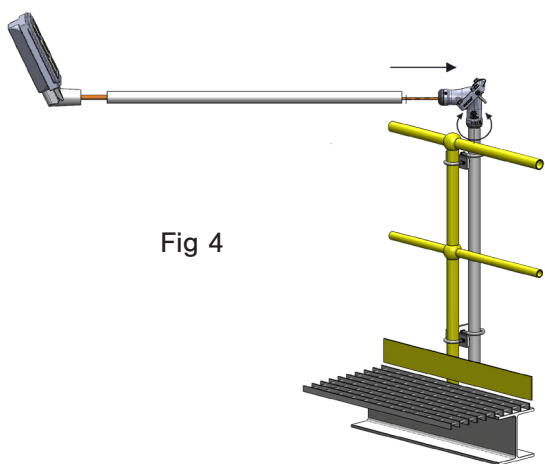

Fig 4
- Feed the cable through the pole top and insert the pole top into the Maxis™ joint. (Fig 4)